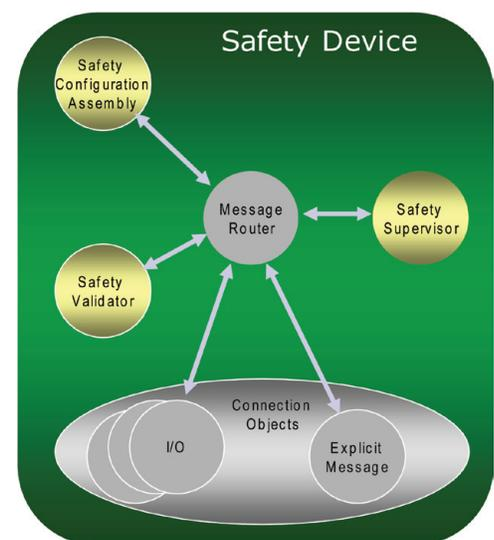

Figure 9
- **Wireshark™**, with its built-in CIP decoder is a popular open source tool used to analyze EtherNet/IP traffic (Figure 9). Wireshark runs on Windows, Linux, UNIX, and other platforms. This tool was previously known as Ethereal.